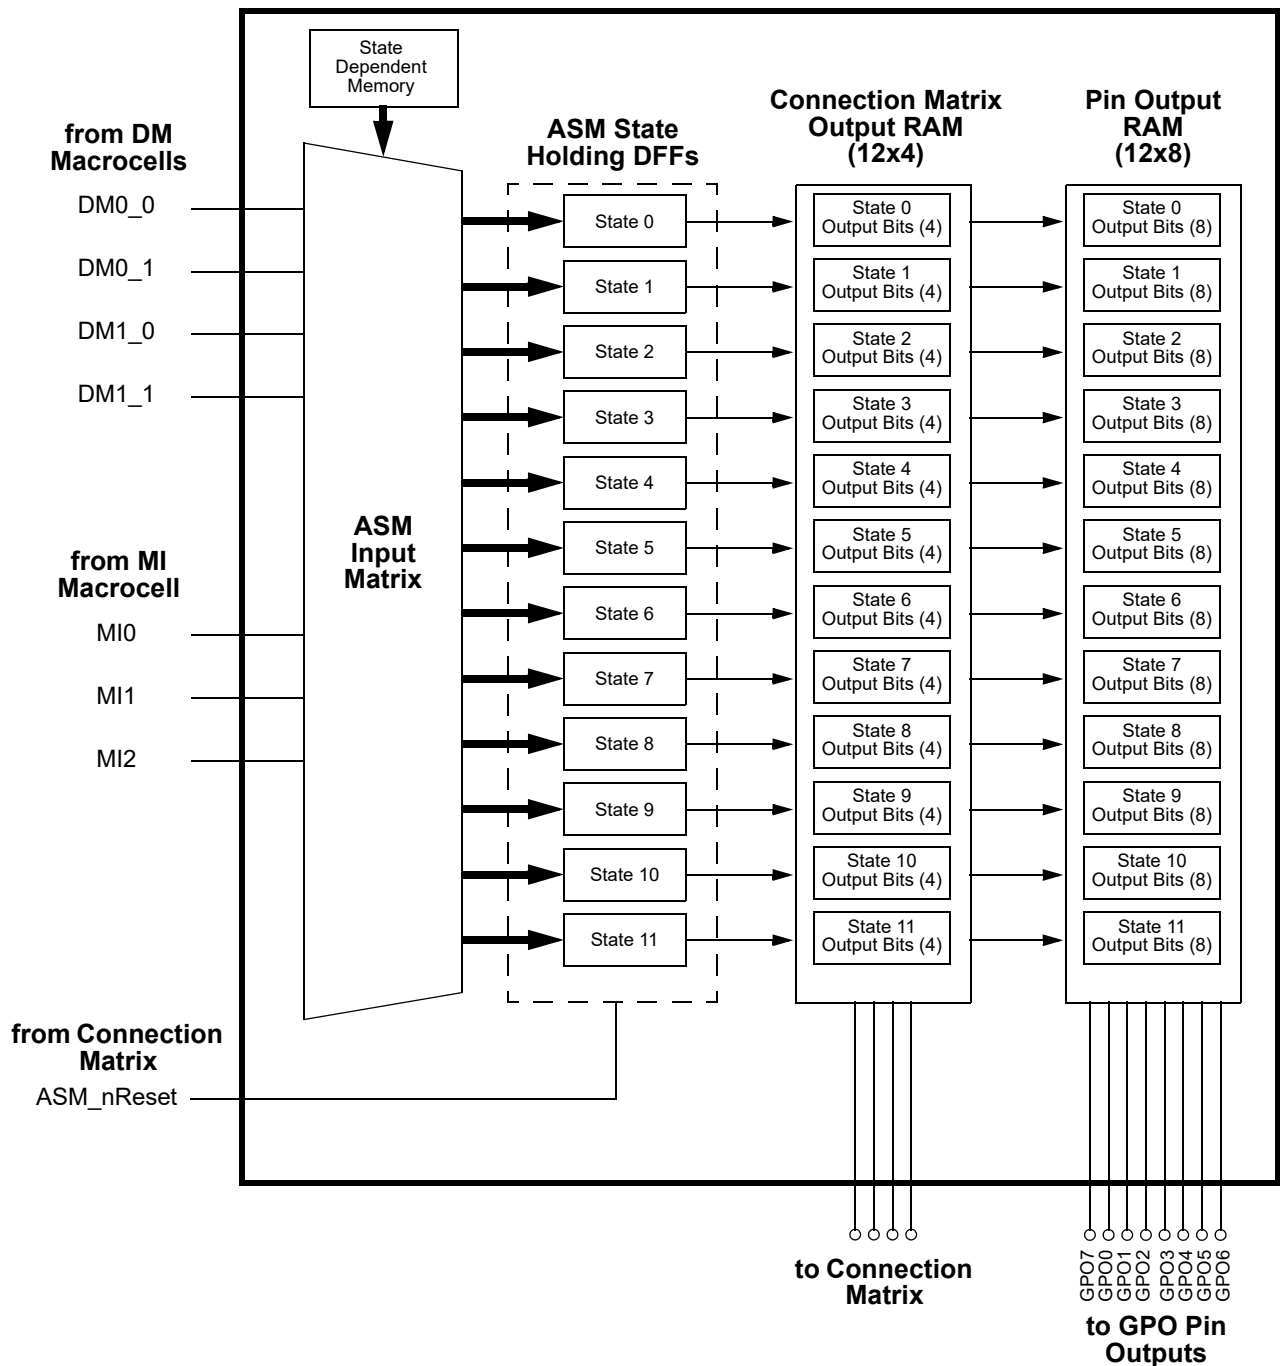

Figure 110: 12 State ASM Macrocell
The ASM macrocell has a total of 8 input signal lines, as shown in Figure 110, which come from a combination of three Matrix Interface (MI) macrocell outputs and DM macrocell outputs. Of these 8 inputs, 3 are user selectable inputs coming from the three Matrix Interface (MI) macrocells (one per macrocell) to the ASM macrocell. There are also 4 inputs that come from the DMx\_x macrocells (one per macrocell). There is 1 ASM\_nReset input that is for driving a state transition in the ASM macrocell to a user defined Initial/Reset state.
The GPAK Designer development tools support user designs for the ASM macrocell at both the physical level and logic level. Figure 110 is a representation of the user design at the logical level, and Figure 110 shows the physical resources inside the various macrocells in the ASM Subsystem. To best utilize this subsystem, the user must develop a logical representation of their desired state machine, as well as a physical mapping of the input and outputs required for the desired functionality.
The ASM macrocell has a total of 8 input signal lines, as shown in Figure 110, which come from a combination of Connection Matrix outputs and DM macrocell outputs.